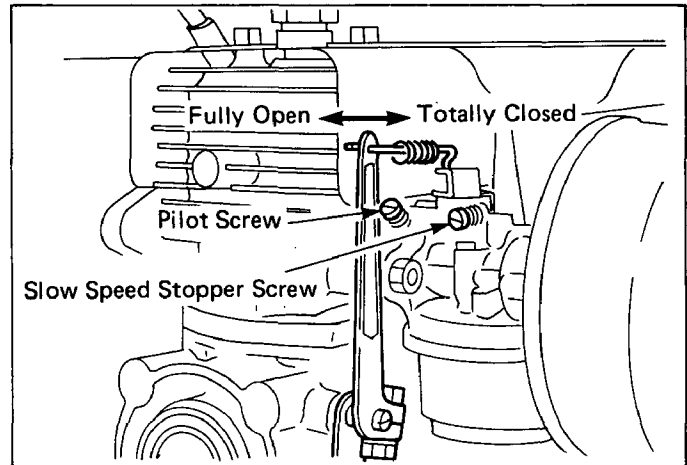

Fig. 20
1) Idling Adjustment (See Fig. 20.)